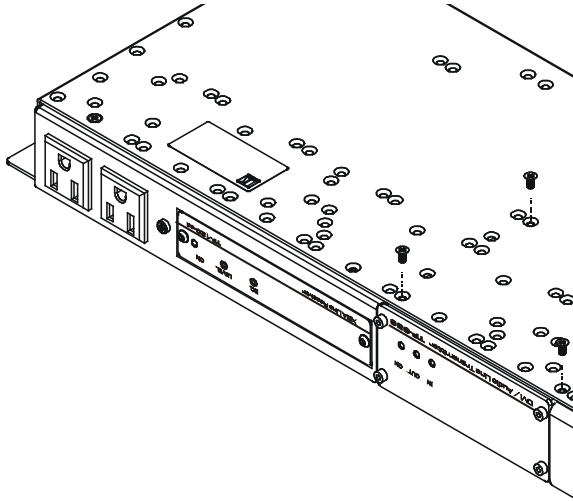

Figure 6: RK-1UTB/T Under the Table Enclosure – Underside
3. Insert the appropriate amount of screws² through the holes on the **RK-1UTB/T** that fit the holes on the underside of the **TP-953**, using the M3x6 screws supplied with the unit (as illustrated in Figure 6).